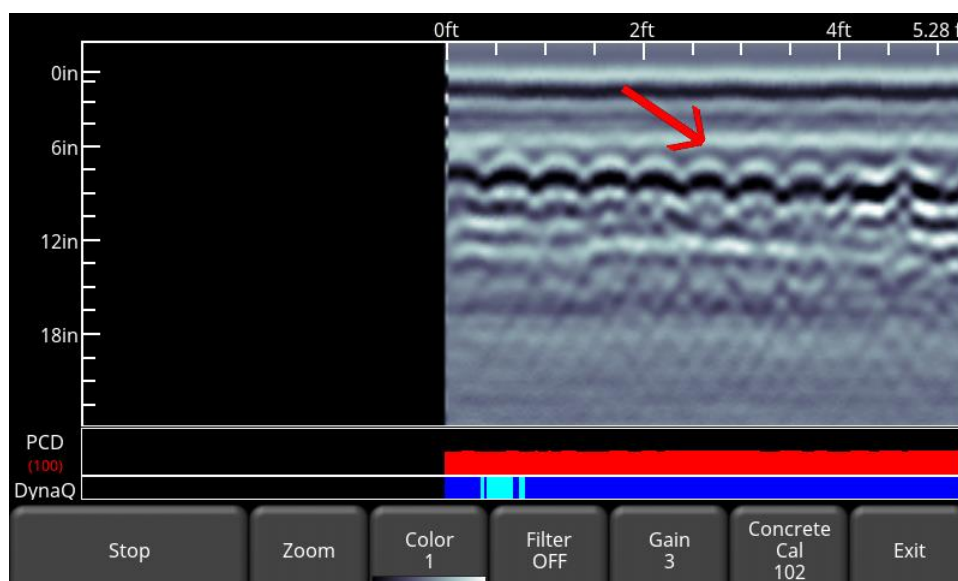

Figure 6-18: Drawing an arrow on the screen in No Save Mode
2. You can draw arrows to highlight features. Touch the screen where you want the head of the arrow to appear, and then swipe away in the direction of the shaft. In the example in (Figure 6-18), the user touched near the hyperbola, then swept their finger towards the top left to create the arrow. Just like Interps, any number of arrows can be drawn on this screen. Touch any arrow to remove it.